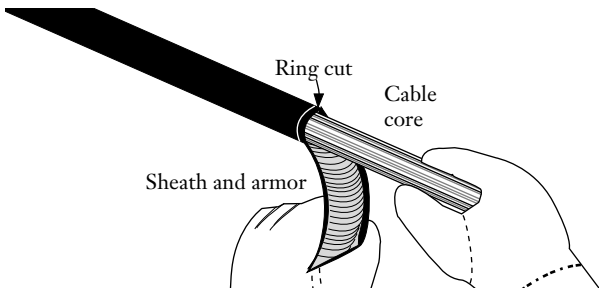

Figure 18
**6.6** Peel the 15 cm (6 in.) section of sheath and armor from the end of the cable – *use care during this step to avoid damaging the cable core* (Figure 18).